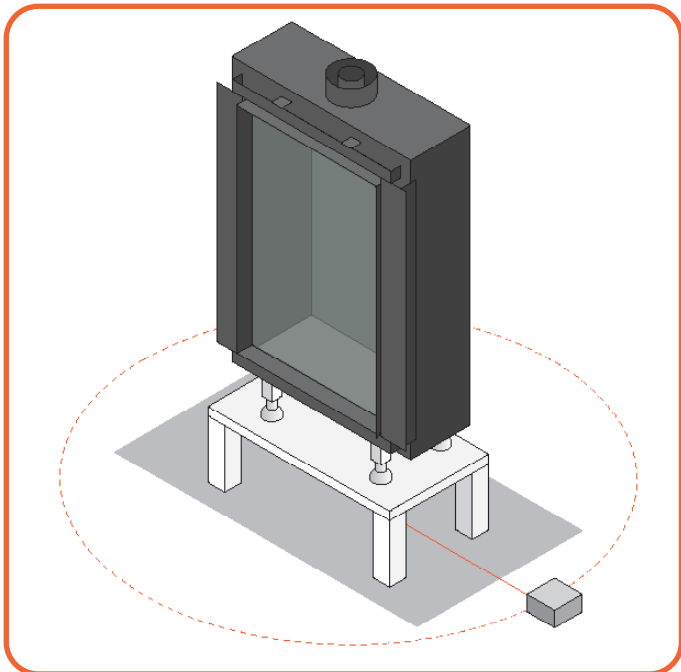

Figure 4.4 - Lineset access
1. Line set access. The line set is to be unwrapped which allows the controls to be then placed within approximately 50"/1270 mm from the center of the fireplace, as the cable runs (**Figure 4.4**).